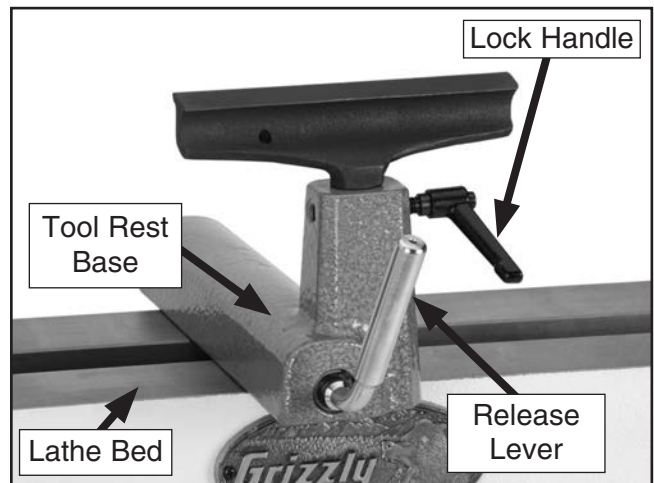

Figure 23. Tool rest controls.
1. Loosen the release lever and slide the tool rest base along the bed (**Figure 23**).
1. Loosen the lock handle (**Figure 23**) and adjust the tool rest vertically and/or swivel it as needed, then tighten the lock handle.